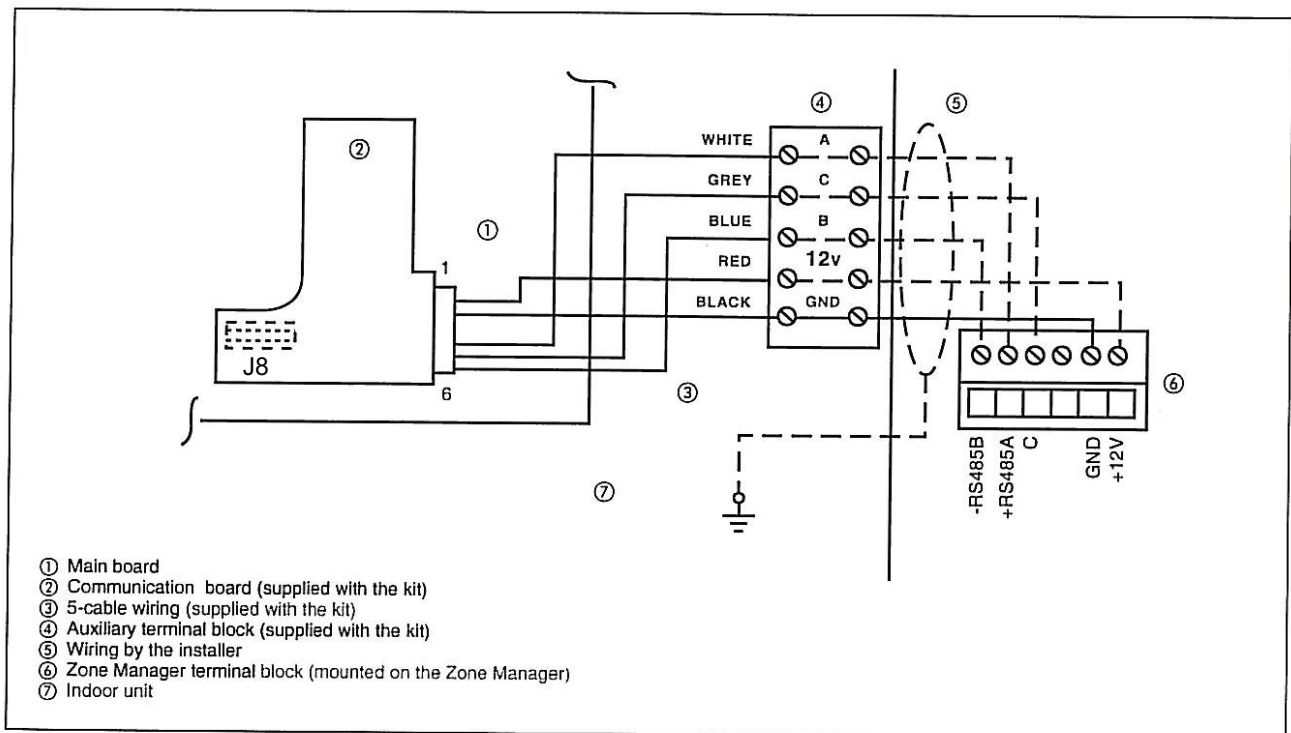

Fig. 34 - Wiring for Zone Manager
- b. Plug the communication board to the J8 as shown in Fig. 34.
- e. Connect the other end of the wire harness to the field supplied wiring that will be connected to the zone manager as shown in Fig. 34 (shielded cables are required. Refer to Zone Manager Installation Instructions).